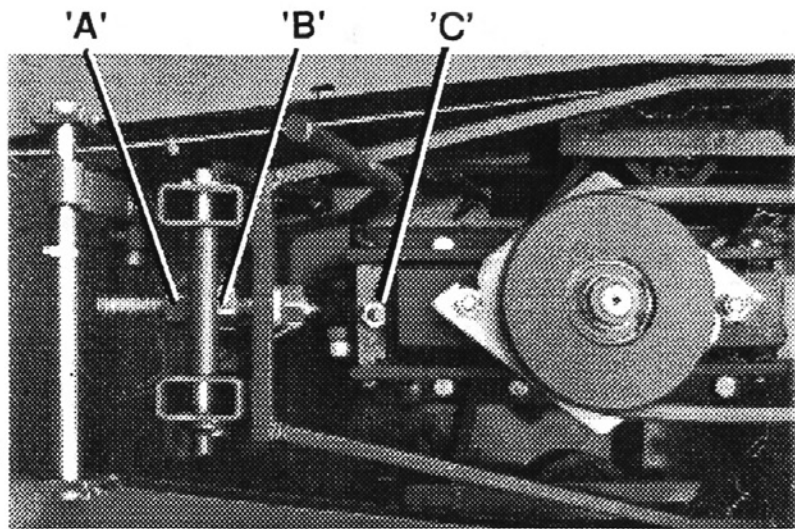

FIG. 1
2. Loosen front nut " A " and tighten rear nut " B " Fig. 1.
3. Loosen  $\frac{5}{8}$  nut "B" so that main belt is loose, (refer Fig 1.)
3. Loosen nut "B" and remove main drive belt from pulley ( refer Fig 1 )